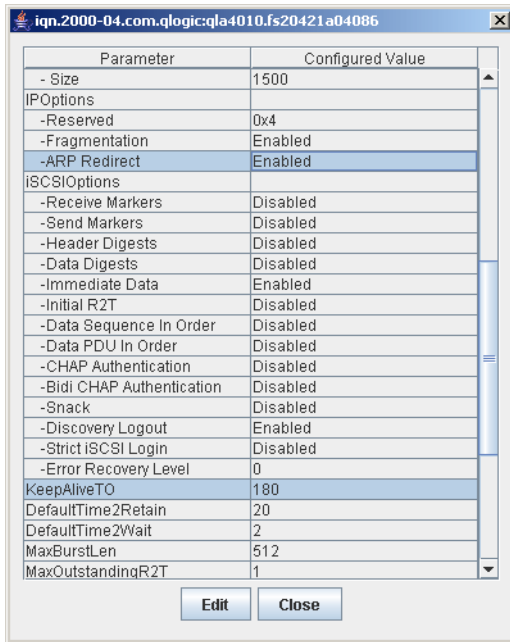

Figure 7-59 Modified firmware settings
- The changed firmware settings are listed in Figure 7-59, but are not yet active. Click **Close**.